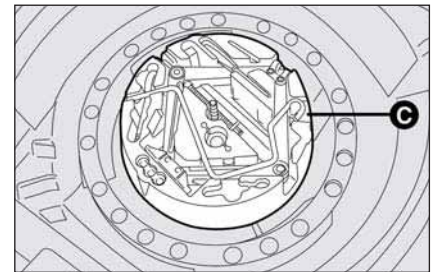

fig. 11
- Fit the jack partially open in its container **C-fig. 11** forcing it lightly to prevent it from vibrating when travelling.
- Stow the container **C-fig. 11**, complete with tools in the boot.